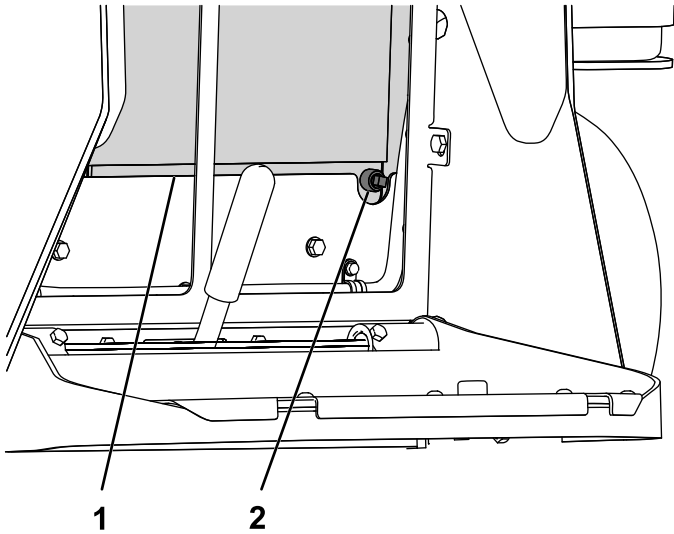

Figure 7
1. Install the radiator drain plug (Figure 7).